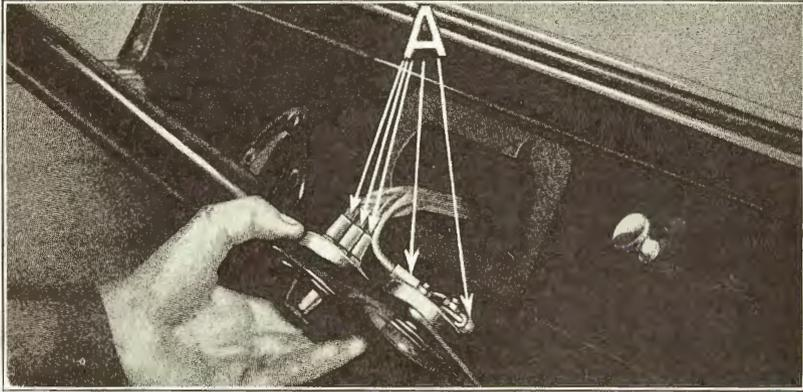

Fig. 519
- 1097** If the ammeter fails to show a discharge, and an examination discloses that the trouble is not due to the lamps being burned out, check battery wire connection on terminal block, point 13 (Fig. 498), and on back of ignition switch, point 18, and on ammeter, points 23 and 24, also at starting switch, point 26, for an open or loose connection. See that the rubber insulators on the ends of the wires on back of switch (See A, Fig. 519) are in position so that it is impossible for the metal part of any of the terminals to come in contact with each other. If these connections are clean and tight, the trouble is undoubtedly in the lighting switch, which should be checked as outlined in Par. 1101.
- 1100** If the lamps now fail to light, remove ignition switch and examine all connections on the back of switch to see that they are clean and tight, also that the rubber insulators on the ends of the wires (See "A", Fig. 519) are in position so that it is impossible for the metal part of any of the terminals to come in contact with each other.
- 1106** Disconnect "terminal block to starting switch" wire at the terminal block, point 13, Fig. 498. If the ammeter now registers zero, the hand is not bent but there is a short in the ammeter wire from the ammeter to cutout, points 3, 11 and 23, or ammeter to ignition switch wire, points 18 and 24, or in the light and ignition switch, or in the head or tail lamp wires. To find the short, examine these wires carefully for a break in the insulation; also note whether rubber insulators are in place on the terminals on back of ammeter and ignition switch (See "A" Fig. 519).